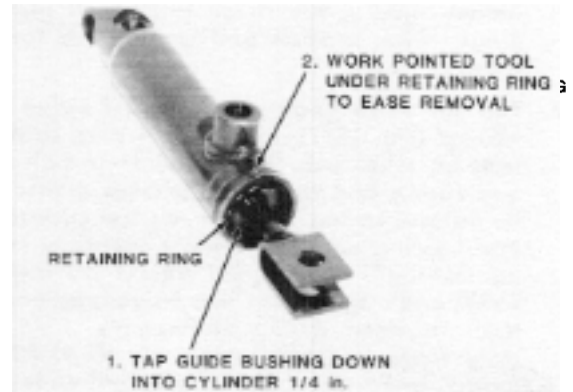

FIG. 22B. Remove Retaining Ring
8. After reinstalling the retaining ring (Fig. 22B), fully extend the piston rod until the piston pushes the rod guide bushing up to "capture" the retaining ring.